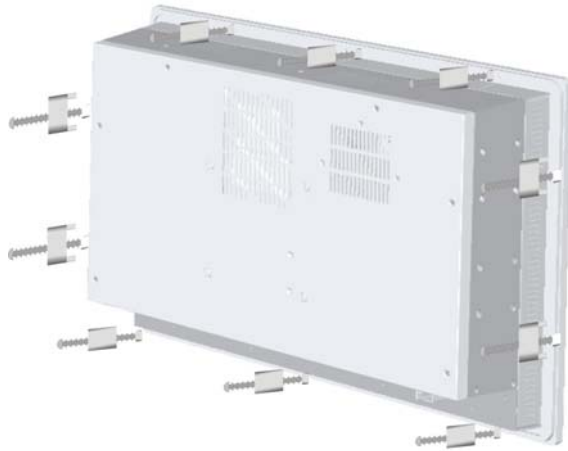

Figure 3-27: Panel Mounting Clamp Positions
- Step 4:** Insert the panel mounting clamps into the pre-formed holes along the edges of the WIDS-51xA-H61, behind the aluminum frame (**Figure 3-27**). Refer to the mounting kit packing list for the required number of mounting clamps.